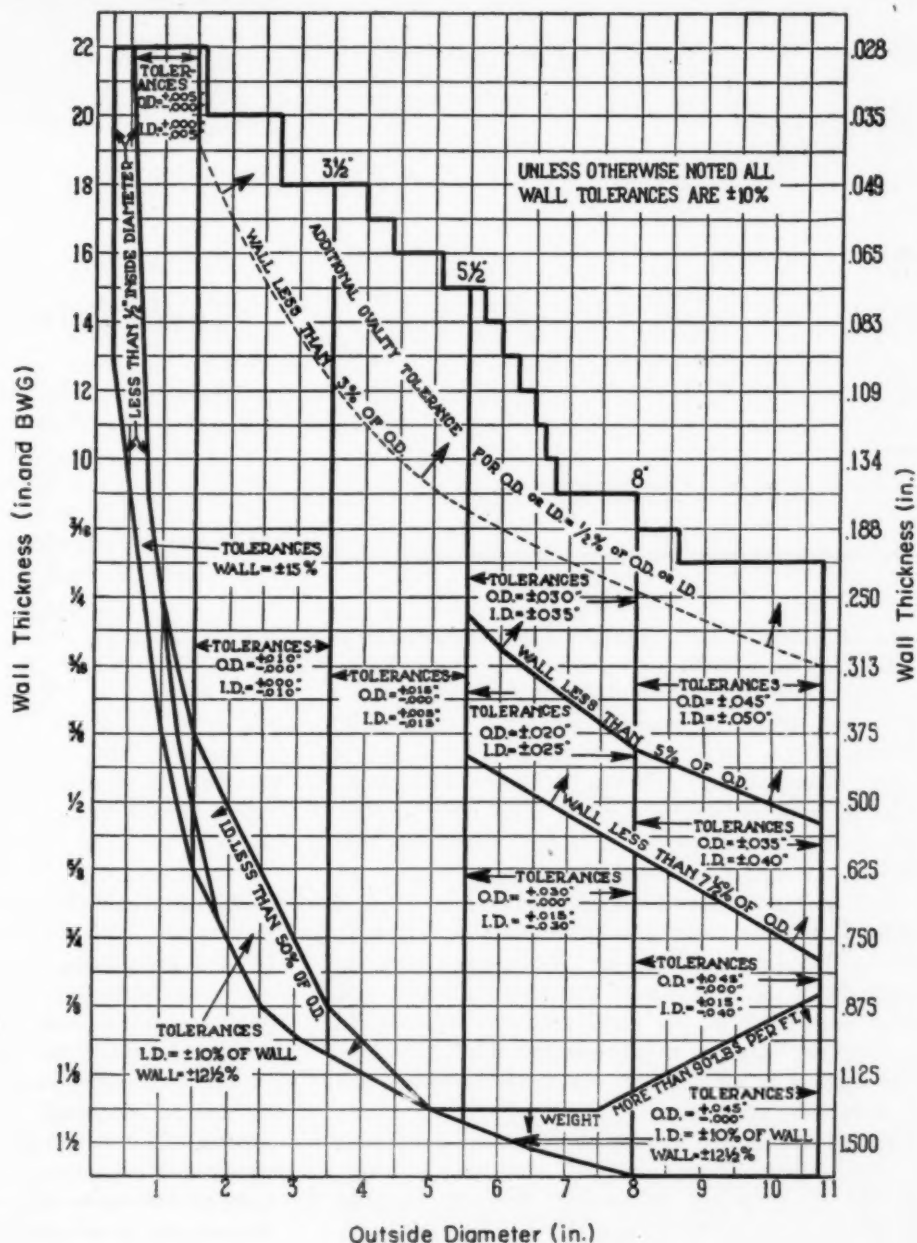

Fig. 11—Right—Chart showing typical tolerances for cold-drawn round seamless tubing
round seamless tubing are shown in the chart, Fig. 11. Welded tube tolerances are shown in TABLE 1. These are only general size accuracies used with standard tubes. Wall thickness, diameter, etc., will alter these figures for specific sizes.
- National Tube Div., U. S. Steel Co. (Fig. 11) .... Pittsburgh, Pa.